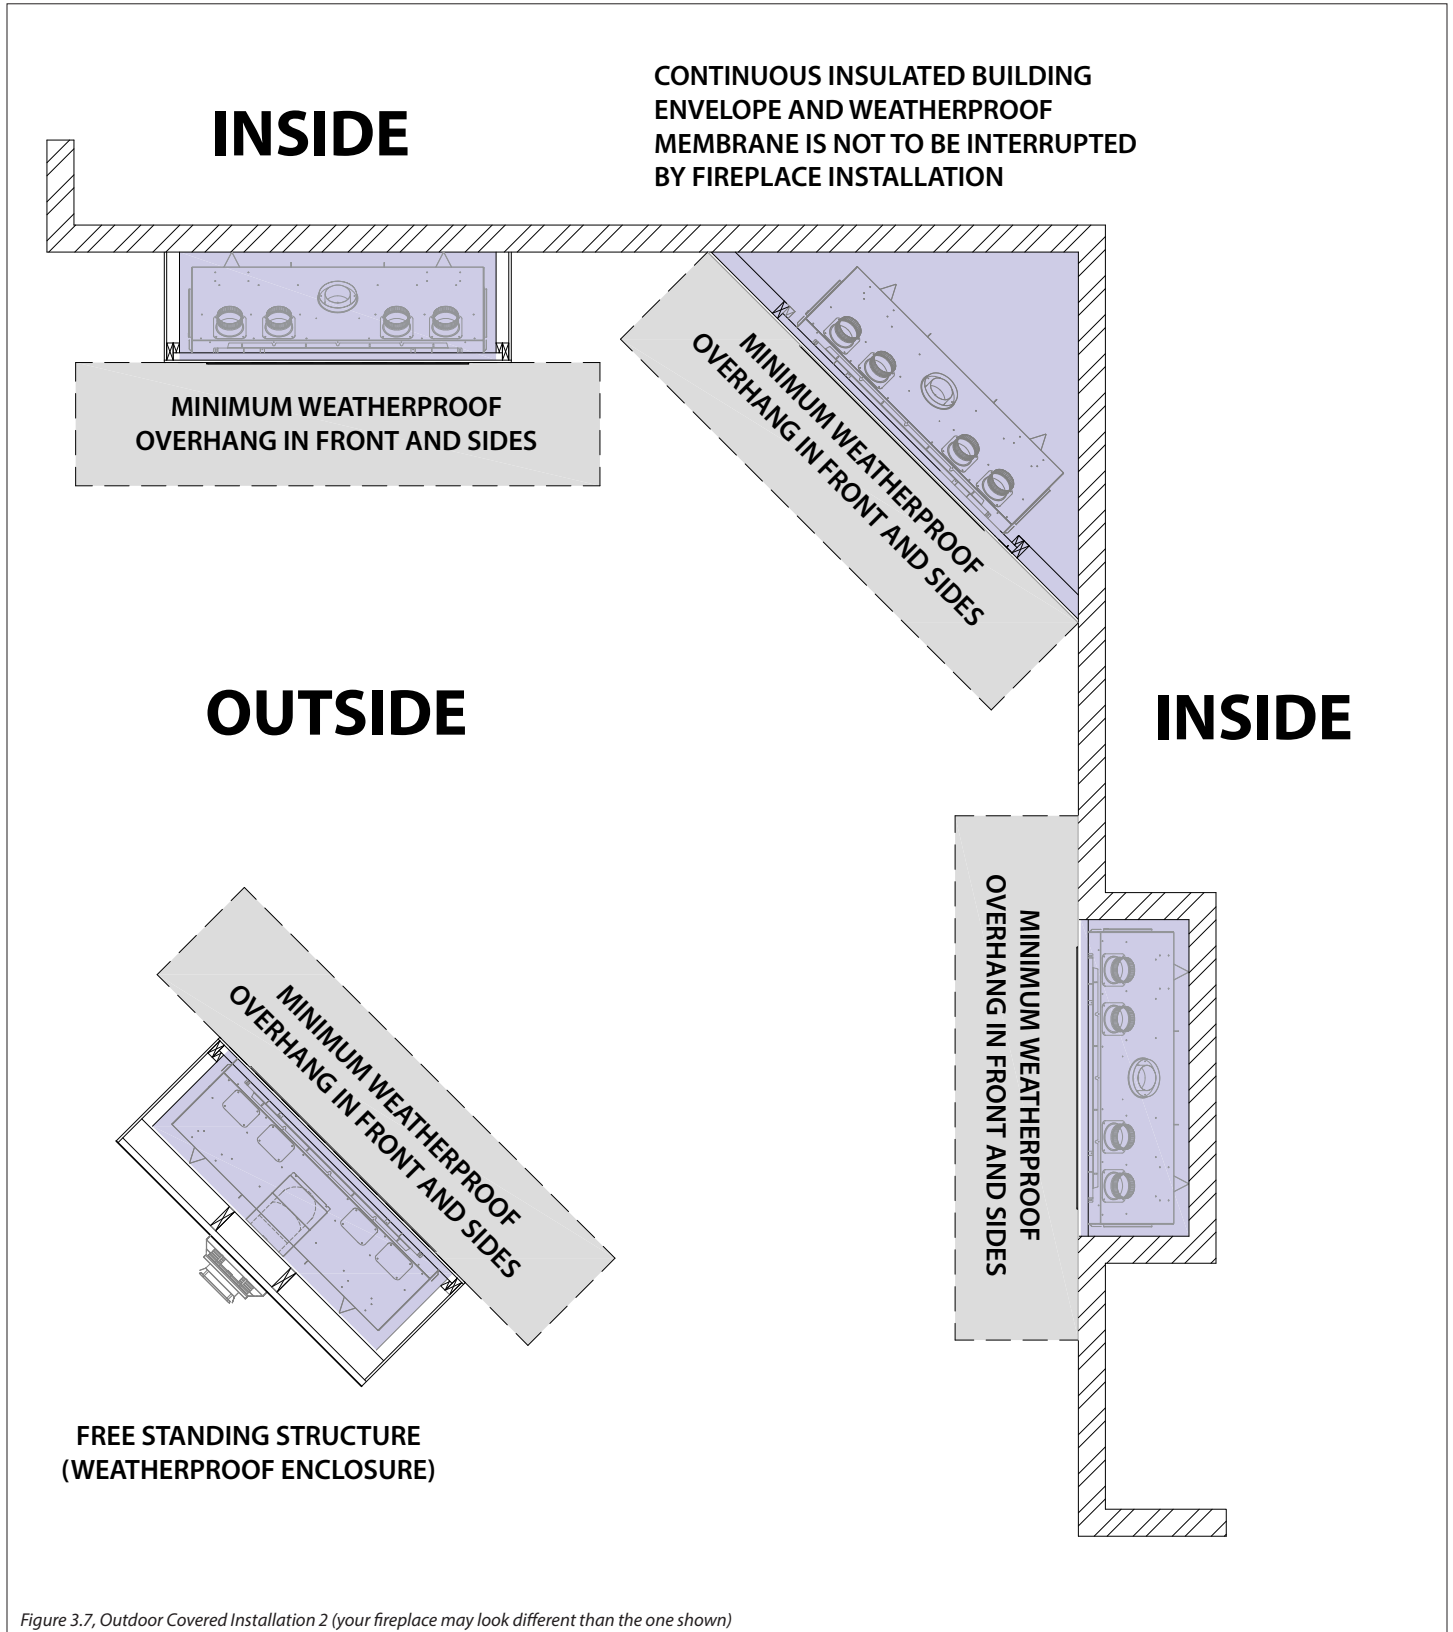

Figure 3.7, Outdoor Covered Installation 2 (your fireplace may look different than the one shown)
- The continuous insulated building envelope and weatherproof membrane is not to be interrupted by fireplace installation. See Figure 3.7 on the following page.